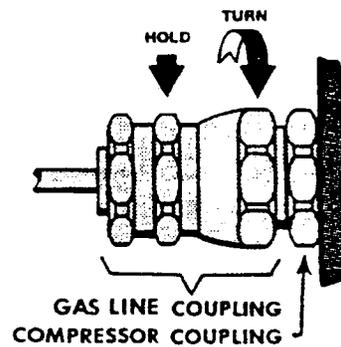

Fig. 6 Connect Gas Line to Compressor
4. Connect the supply gas line to the supply coupling on the compressor. Use two wrenches to tighten the coupling to 35 \pm 5 ft.lbs. See Fig. 6.